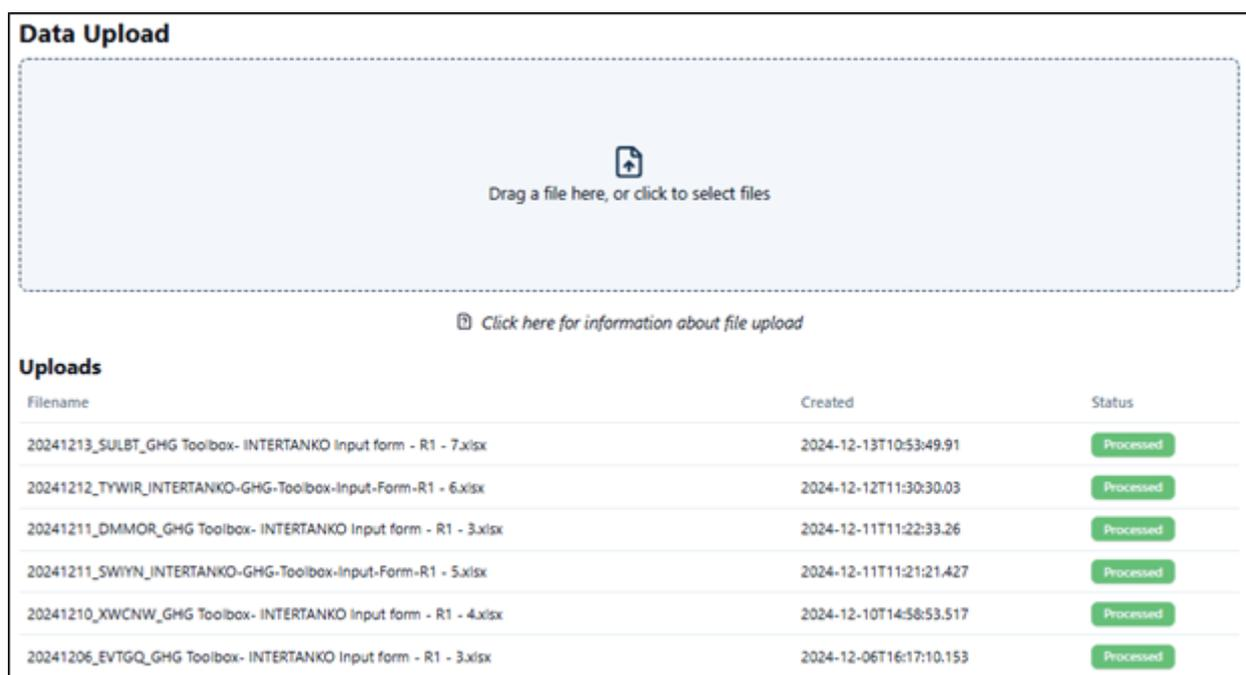

Figure 2 Data Upload through the GHG Benchmarking tool
- **Manual upload** into the GHG Benchmarking tool (see Figure 2)
This is the dashboard (see Figure 2) where the various valid files can be uploaded into the application (see Figure 14). It is recommended to upload the data at least once per year, using the verified DCS/MRV data from the previous year. The data ingestion process takes approximately 24 hours to complete and make the data visible in the application.